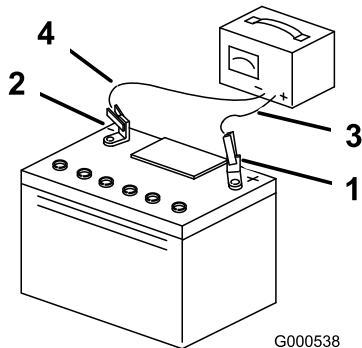

Figure 50
3. When the battery is fully charged, unplug the charger from the electrical outlet, then disconnect the charger leads from the battery posts (Figure 50).